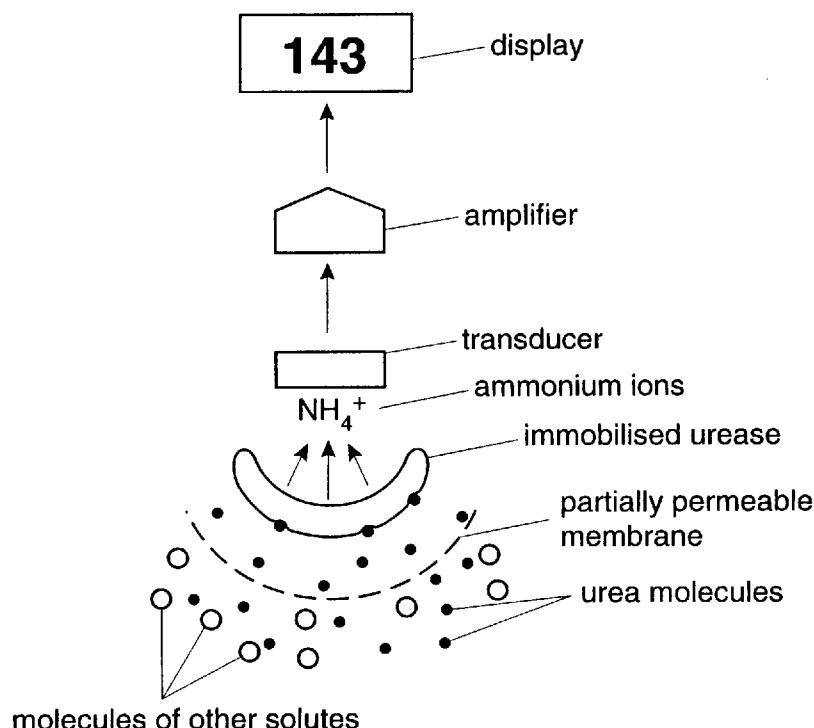

Fig. 4.1
- 4 (a) Fig. 4.1 shows a biosensor that can be used to measure the concentration of urea in blood or urine. The immobilised enzyme, urease, speeds up the reaction between urea and water to produce carbon dioxide and ammonium ions.